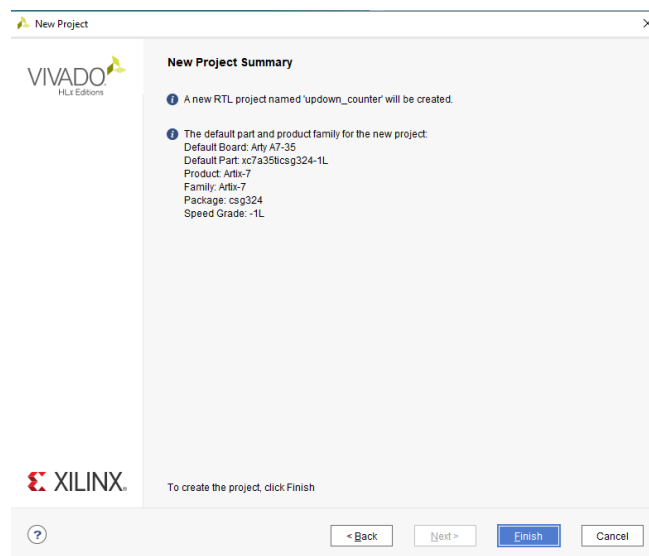

Figure 5: Project Summary
6. The next window will show the summary of the project to be created. Verify that the project settings are correct (see Fig. 5). Click "Finish" to create the project.